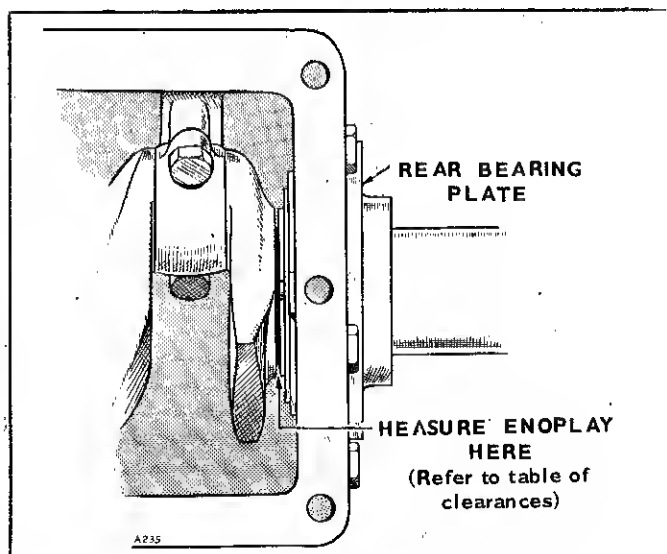

FIGURE 75. CRANKSHAFT END PLAY
6. Check the crankshaft end play. Use enough rear bearing plate gaskets to provide .010" to .015" end play (Fig. 75).